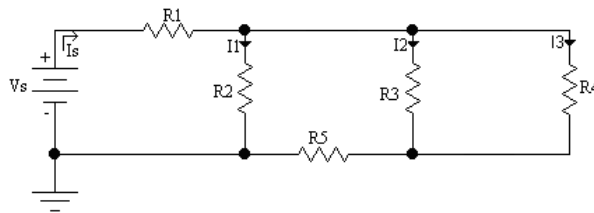

Figure 2.3
2. For the circuit of Figure 2.3 calculate  $R_T$ ,  $I_S$ ,  $I_1$ ,  $I_2$ , and  $I_3$ . With  $V_S = 10$  V,  $R_1 = 510$   $\Omega$ ,  $R_2 = 1.5$  k $\Omega$ ,  $R_3 = 1$  k $\Omega$ ,  $R_4 = 1$  k $\Omega$ , and  $R_5 = 2.2$  k $\Omega$ . Show all computer simulation.
2. Construct Figure 2.3, measure  $R_T$ ,  $I_S$ ,  $I_1$ ,  $I_2$ , and  $I_3$  using the DMM.
2. Suppose in Figure 2.3,  $R_3$  burns out and makes an open. Will  $R_T$  be larger or smaller?
3. In Figure 2.3, what will  $I_S$  be if a resistor of the value  $R_T$  is placed across  $V_S$  and all other resistors remain the same?